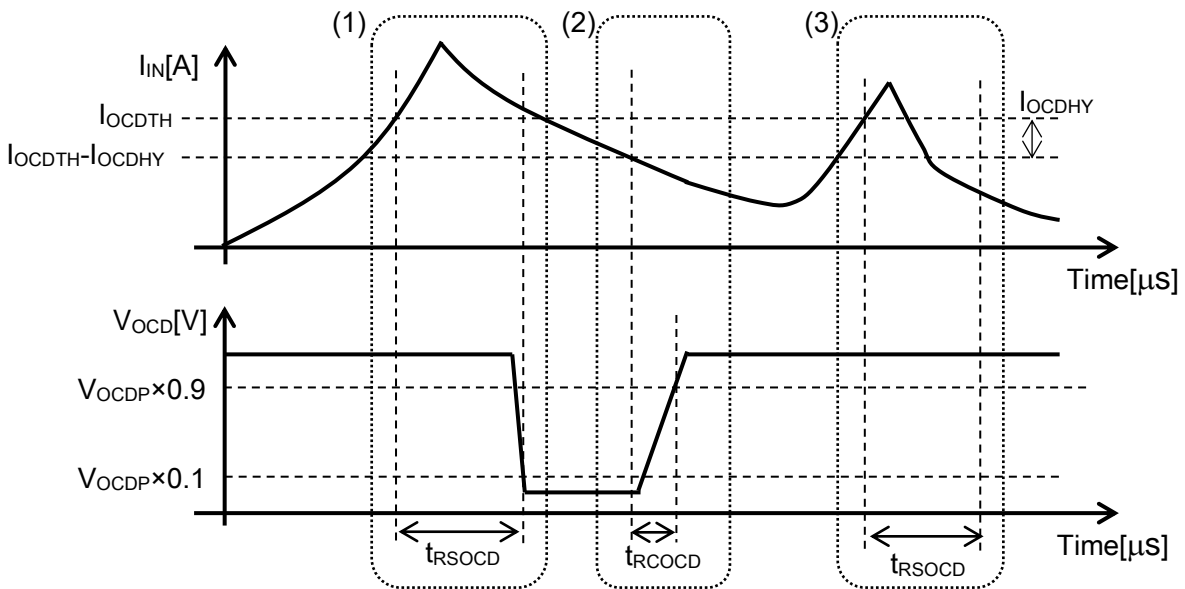

Figure 6. Overcurrent Detection Function of CZ-3A06
**10.4. Overcurrent Detection Function is operated as below. (See figure 6.)**